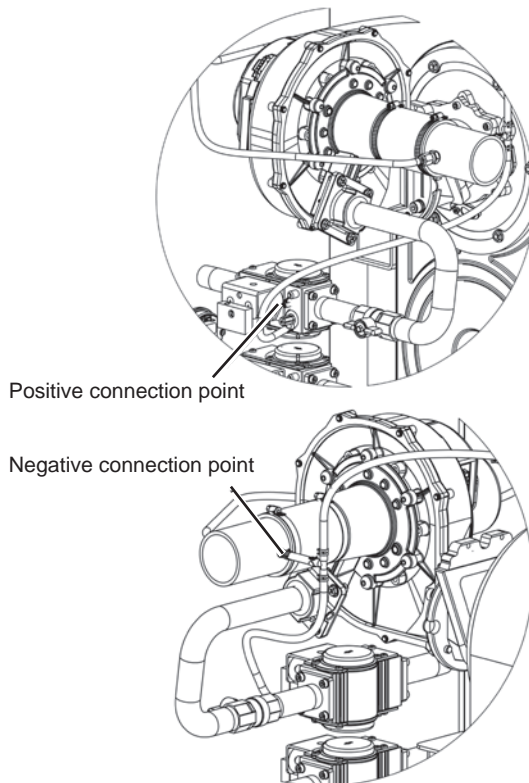

Fig. 106 – Connections for Pressure Gauge
20. When troubleshooting a burner setup, it is sometimes helpful to watch the pressure differential between the gas inlet and outlet. To measure this, install a differential pressure gauge capable of reading negative 0.01 inches W.C. (0.002kPa). Attach the gauge to the positive and negative ports shown in Fig. 106. When the testing is complete, remove the pressure gauge, and plug the ports. Repeat the test setup on each burner.